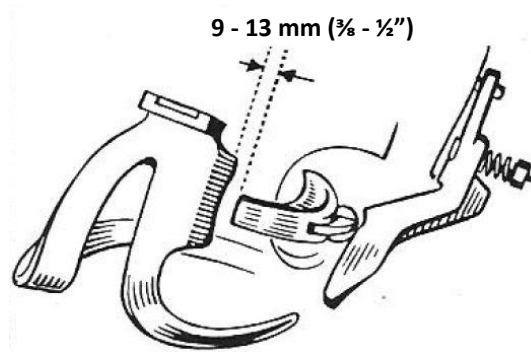

Fig.5.22 Correct Stripper Arm travel past Bill Hook tip
- Does the Stripper Arm travel far enough beyond the Bill Hook's tip? (*Fig.5.22*)